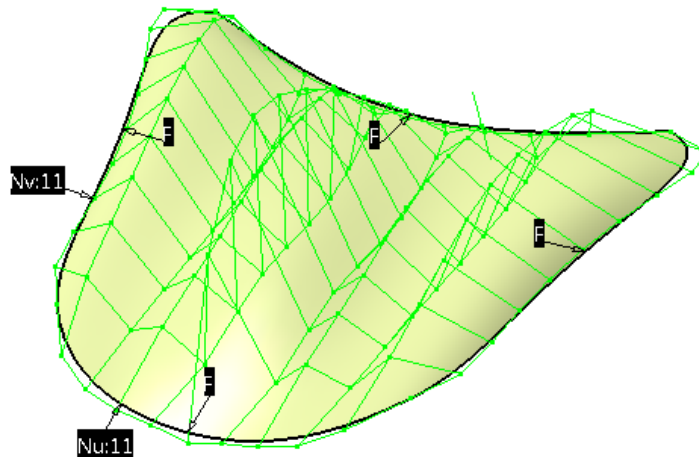

Figure 18-67 The surface after deformation in vertical direction using the mesh
5. Using the mesh, deform the surface such that the surface is displayed, as shown in Figure 18-67.